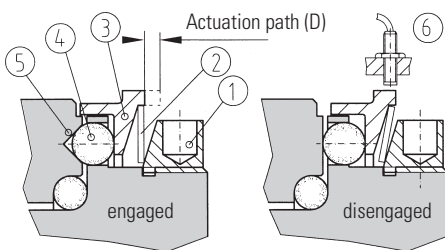

Figure 1
R+W torque limiting couplings are ball detent style overload couplings. They protect drive and driven mechanical components from damage associated with torque overloads. Backlash free torque transmission is accomplished by a series of steel balls (4) nested in hardened detents (5). See figure 1. Disc springs push against an actuation ring (3) keeping the balls nested. The disengagement torque is adjustable by means of an adjustment ring (1). In the event of an overload, the actuation ring moves axially allowing the balls to come out of the detents separating the drive and driven elements. The movement of the actuation ring can be sensed by means of a mechanical switch or proximity sensor triggering the drive to shut down.